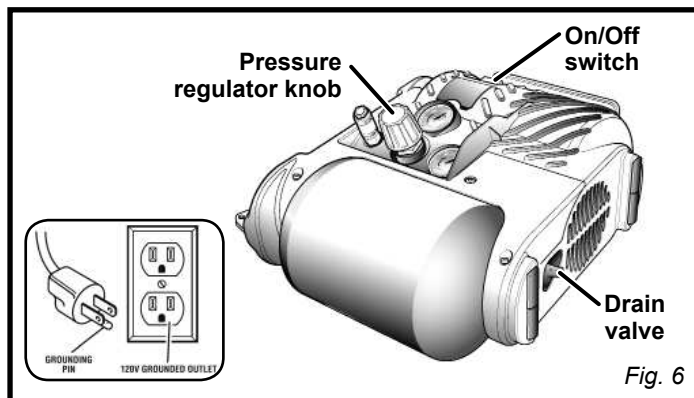

Fig. 6
See figures 6 - 7.
- Ensure the tank drain valve is closed (see fig. 6).
- Ensure the ON/OFF switch is in the **OFF (O)** position and the air compressor is unplugged (see fig. 6).
- Ensure the pressure regulator knob is turned fully counterclockwise (see fig. 6).